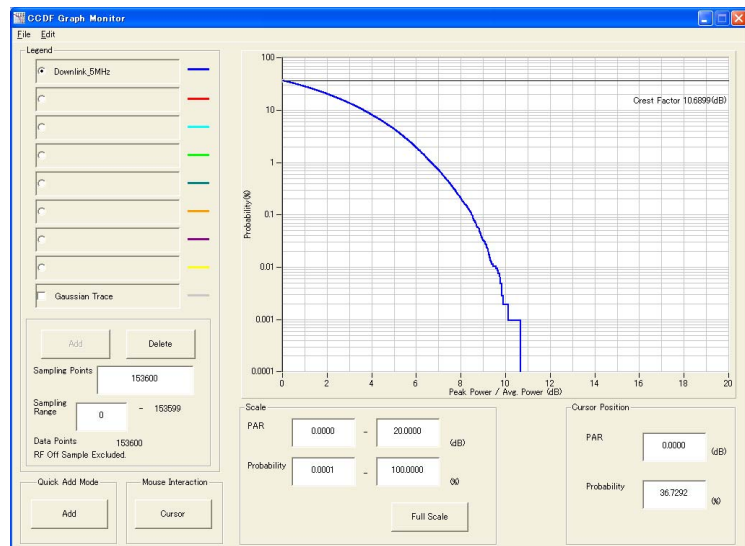

Figure 3.5-1 CCDF Graph Monitor screen
2. Select **CCDF** from the **Simulation** menu or click the  tool button. The CCDF Graph Monitor screen shown in Figure 3.5-1 is displayed with the trace of the generated waveform pattern.